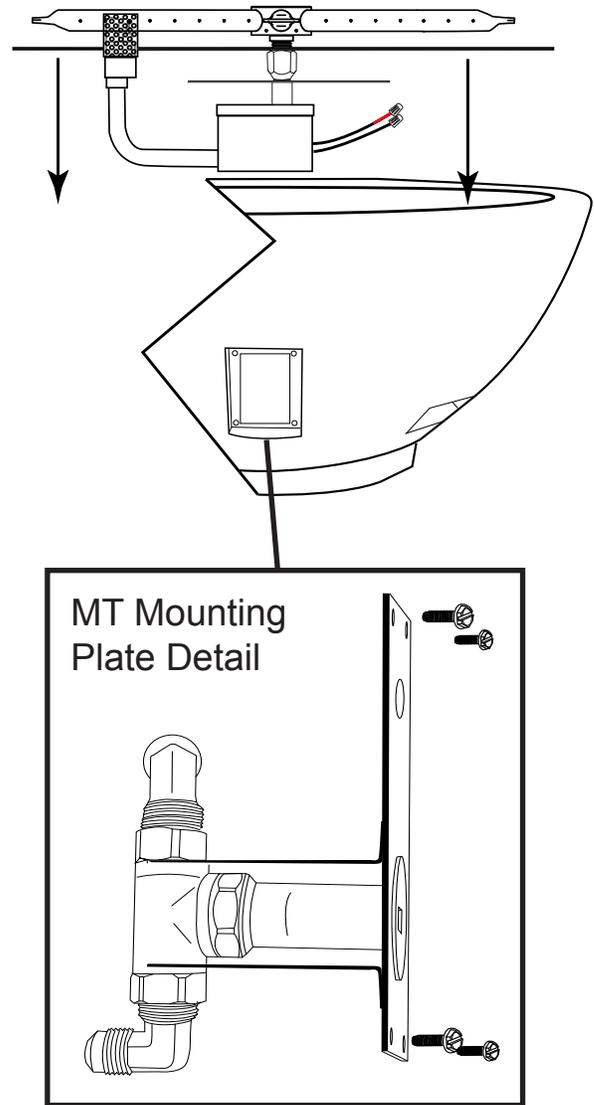

Fig. 6 Typical MT installation.
Install the key valve mounting plate into the Sanctuary bowl as shown in Figs. 6 & 7. The mounting plate must be oriented with key valve at the top (closest to burner pan). Use the four (4) thread cutting screws (supplied) to secure the mounting plate into the bowl.